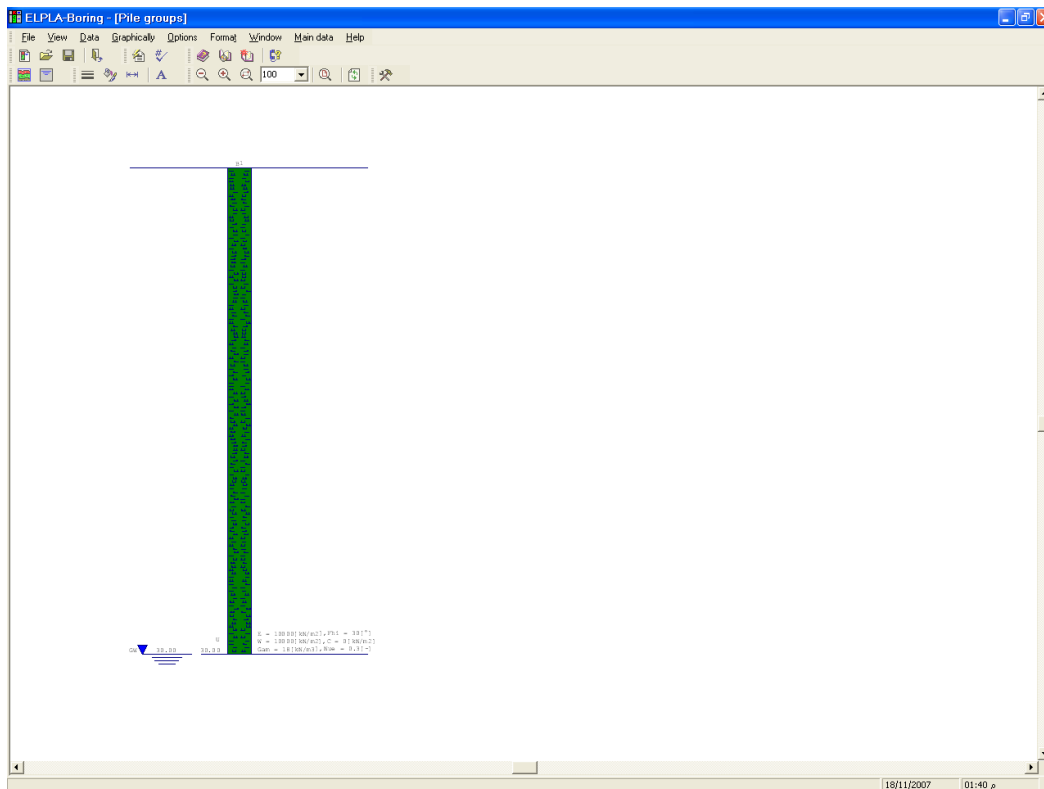

Figure 11-28 Boring log on the screen
After the user has completed the definition of all soil properties and parameters, the screen should look like the following Figure 11-28.
- Choose "Save boring logs" command from "File" menu in Figure 11-28 to save the data of boring log
- Choose "Close boring logs" command from "File" menu in Figure 11-28 to close the *ELPLA-Boring* sub program and to return to the main window of *ELPLA-Data*